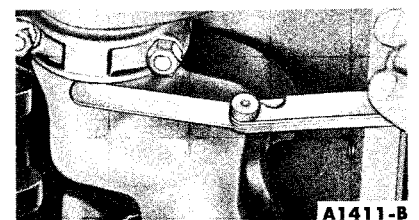

FIG. 59—Connecting Rod Side Clearance
8. After the piston and connecting rod assemblies have been installed, check the connecting rod side clearance on each crankshaft journal (Fig. 59).